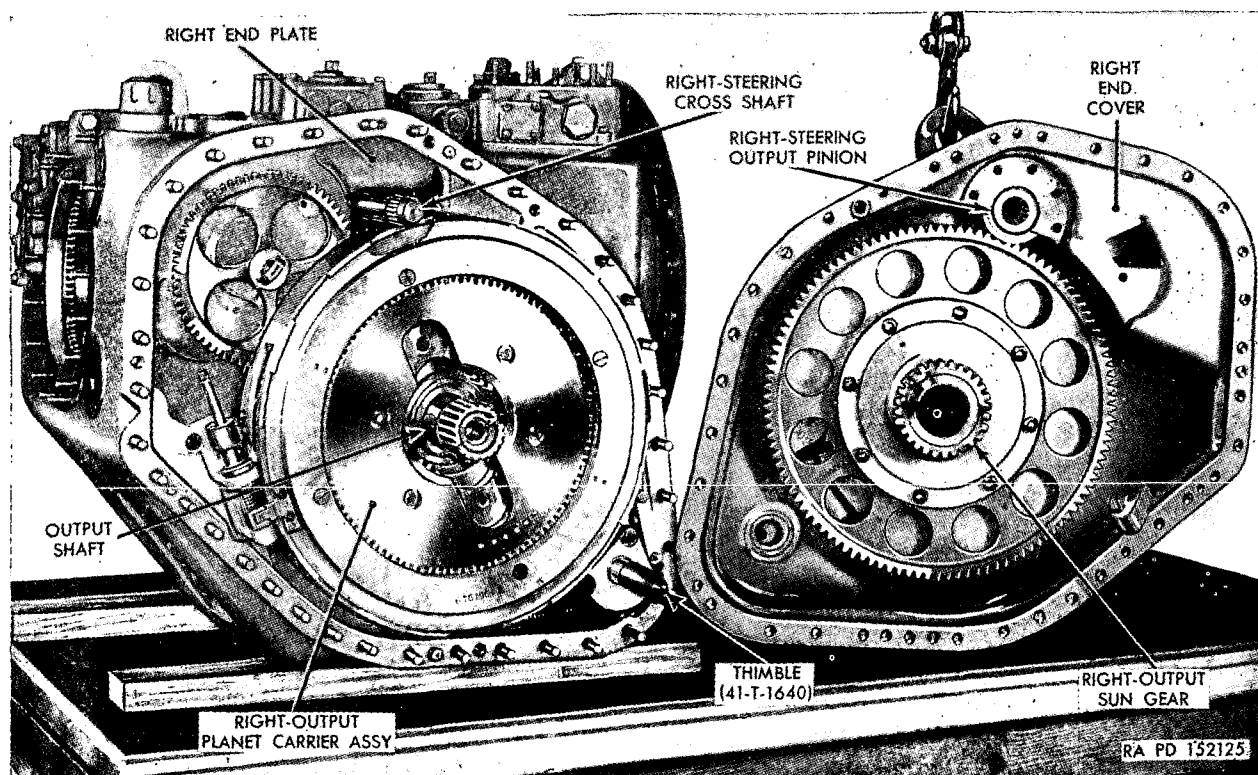

Figure 386. Oil-seal thimble installed on right brake-apply shaft.
- (17) Check the installation by turning the output shaft to see that it causes the output-sump-pump drive gear to rotate. Install the thimble (41-T-1640) on the brake-apply shaft (fig. 386).
- (1) Apply sealing compound to the split line of the right end cover. Attach the hoist to the lifting eye of the right end cover. Lift the end cover and position it near the right end plate for installation. Make sure the thimble is installed on the brake-apply shaft (fig. 386).
- (2) Install the right end cover onto the brake-apply shaft and split line studs,